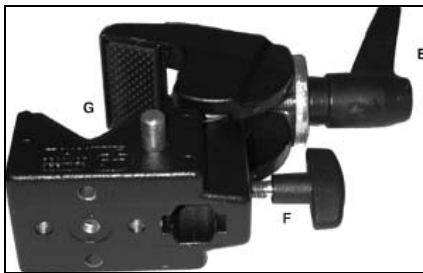

Fig. 15. Fixation Clamp
The fixation clamp is shown in Fig. 15. Turning the handle (E) in a clockwise direction tightens the jaws of the clamp to match the dimensions of the mounting rail or of the operating table itself.
The clamp has a hand-screw (F) and a security pin (G) on the upper jaw, which control the attachment of the Support Arm (see Fig. 15.).